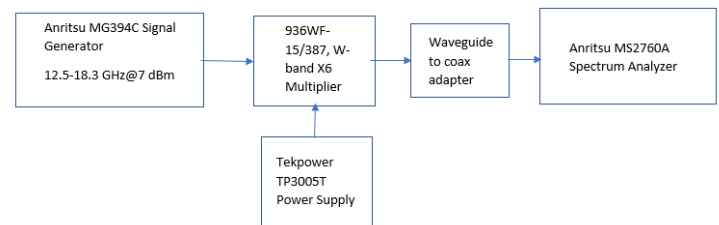

Figure 3.
- ➔ Do the setup as shown in the figure 3.